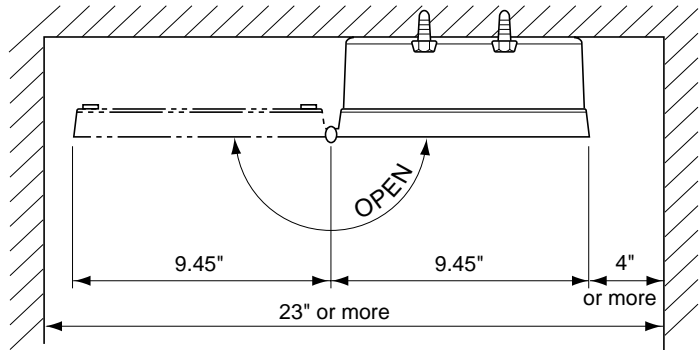

Fig. 2-1 Installation space (top view)
5. Space shown in Fig. 2-1 is available for easy inspection and adjustment.